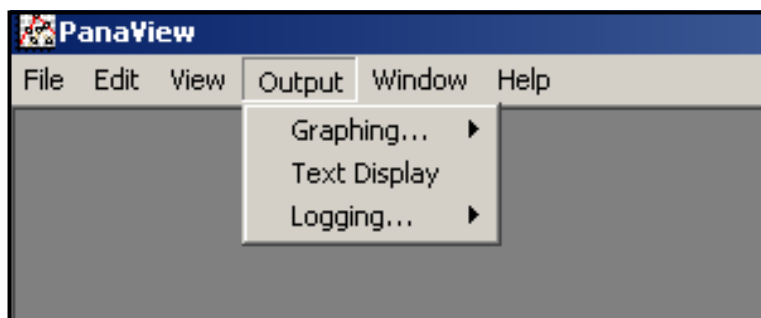

Figure 18: The Output Menu
1. In PanaView, pull down the *Output* menu, as shown in Figure 18, and click on the *Text Display* option.